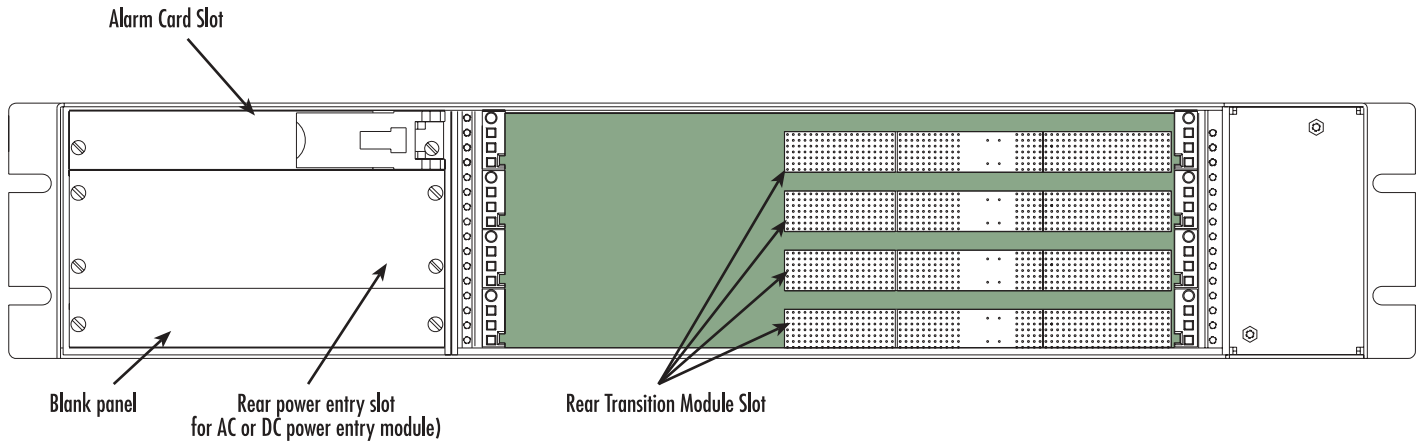

Figure 4. Rear view of chassis
- A set of 3U slots allocated for the following uses (see figure 4 on page 19):